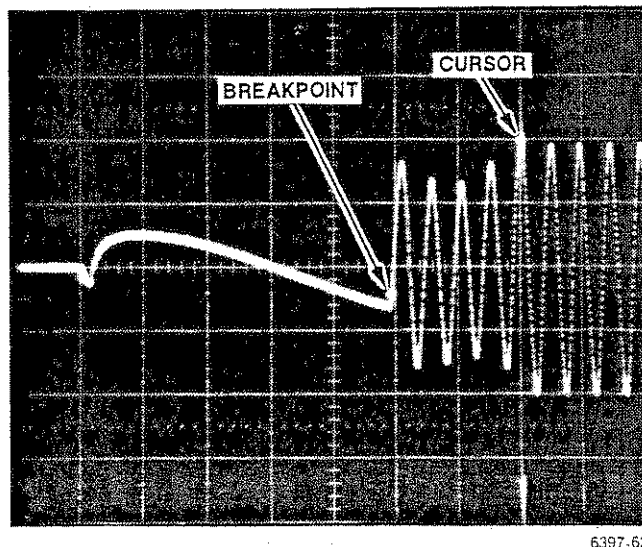

Fig. 3-50. Voltage measurement with CURSOR 1.
2. The first measurement to be made is the waveform peak voltage. Press the MEASURE  $V/\Delta V$  key to display the voltage at the cursor location. Rotate the Parameter Entry Knob to move the cursor along the waveform to the maximum peak voltage point (Fig. 3-50).
3. Press the MEASURE T/ $\Delta$ T key to display the period between the indicated cursor point and the trigger point on the Control display (Fig. 3-50).